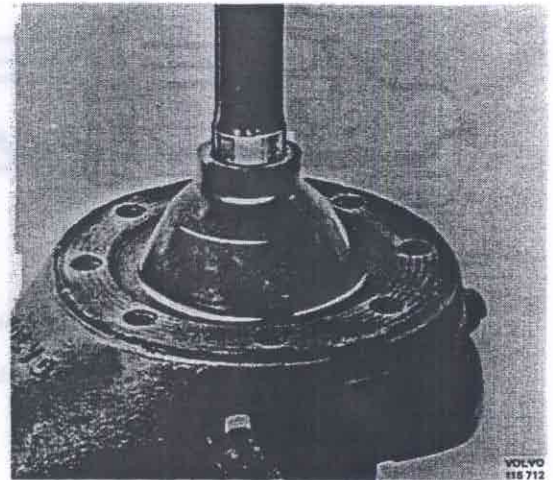

Fig. 46-29. Location of rubber dust cover
4. **NOTE!** Check that the rubber dust cover for the drive shaft is fitted properly on the steering knuckle support, see Fig. 46-29, before fitting the wheel carrier and support together.